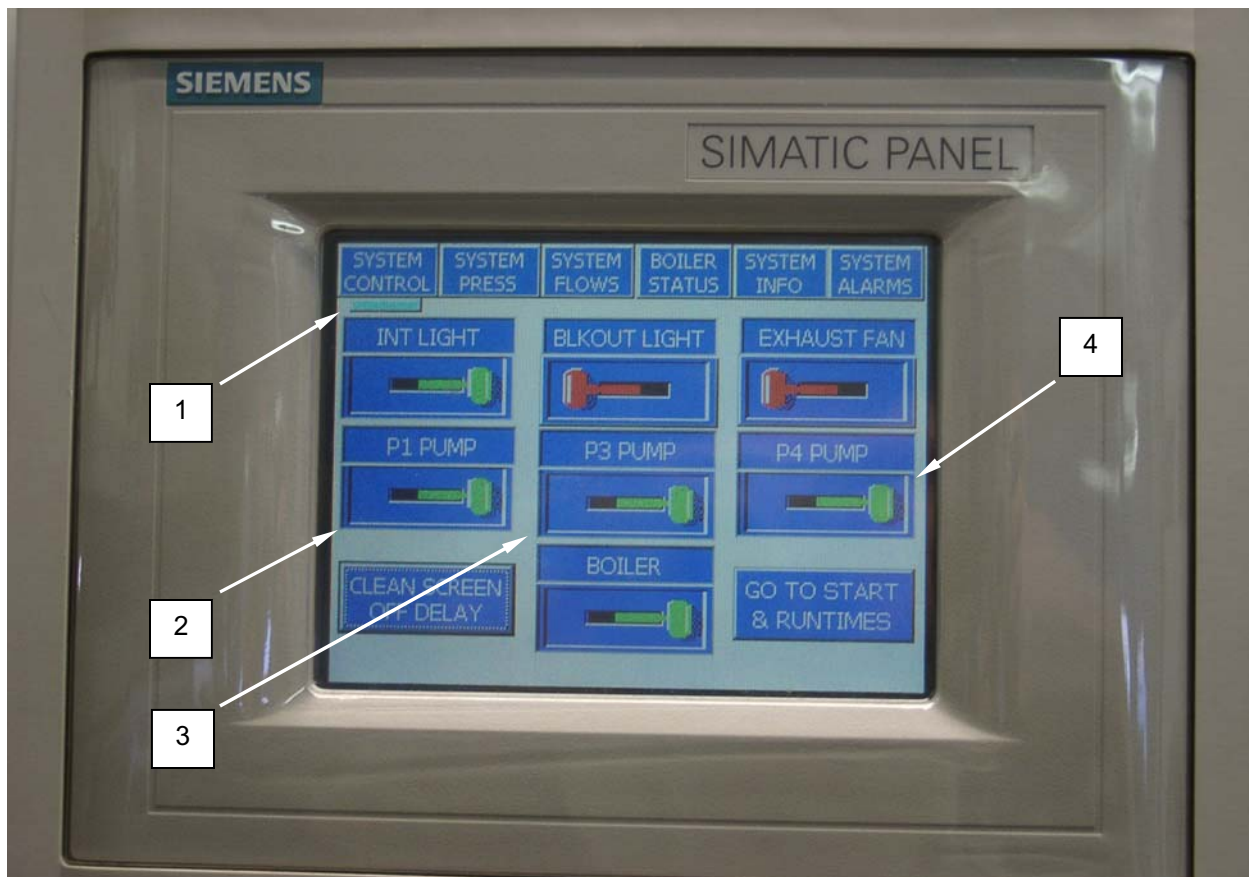

Figure 6. Operate the P-1, P-3, and P-4 Pumps.
1. Ensure the System Control (**Figure 6, Item 1**) screen is displayed.
2. Turn the P-1 PUMP (**Figure 6, Item 2**), P-3 PUMP (**Figure 6, Item 3**), and P-4 PUMP switches (**Figure 6, Item 4**) to the ON position. The switches will turn green when the switch is ON and red when the switch is OFF. Each pump may be switched ON and OFF individually, as desired.